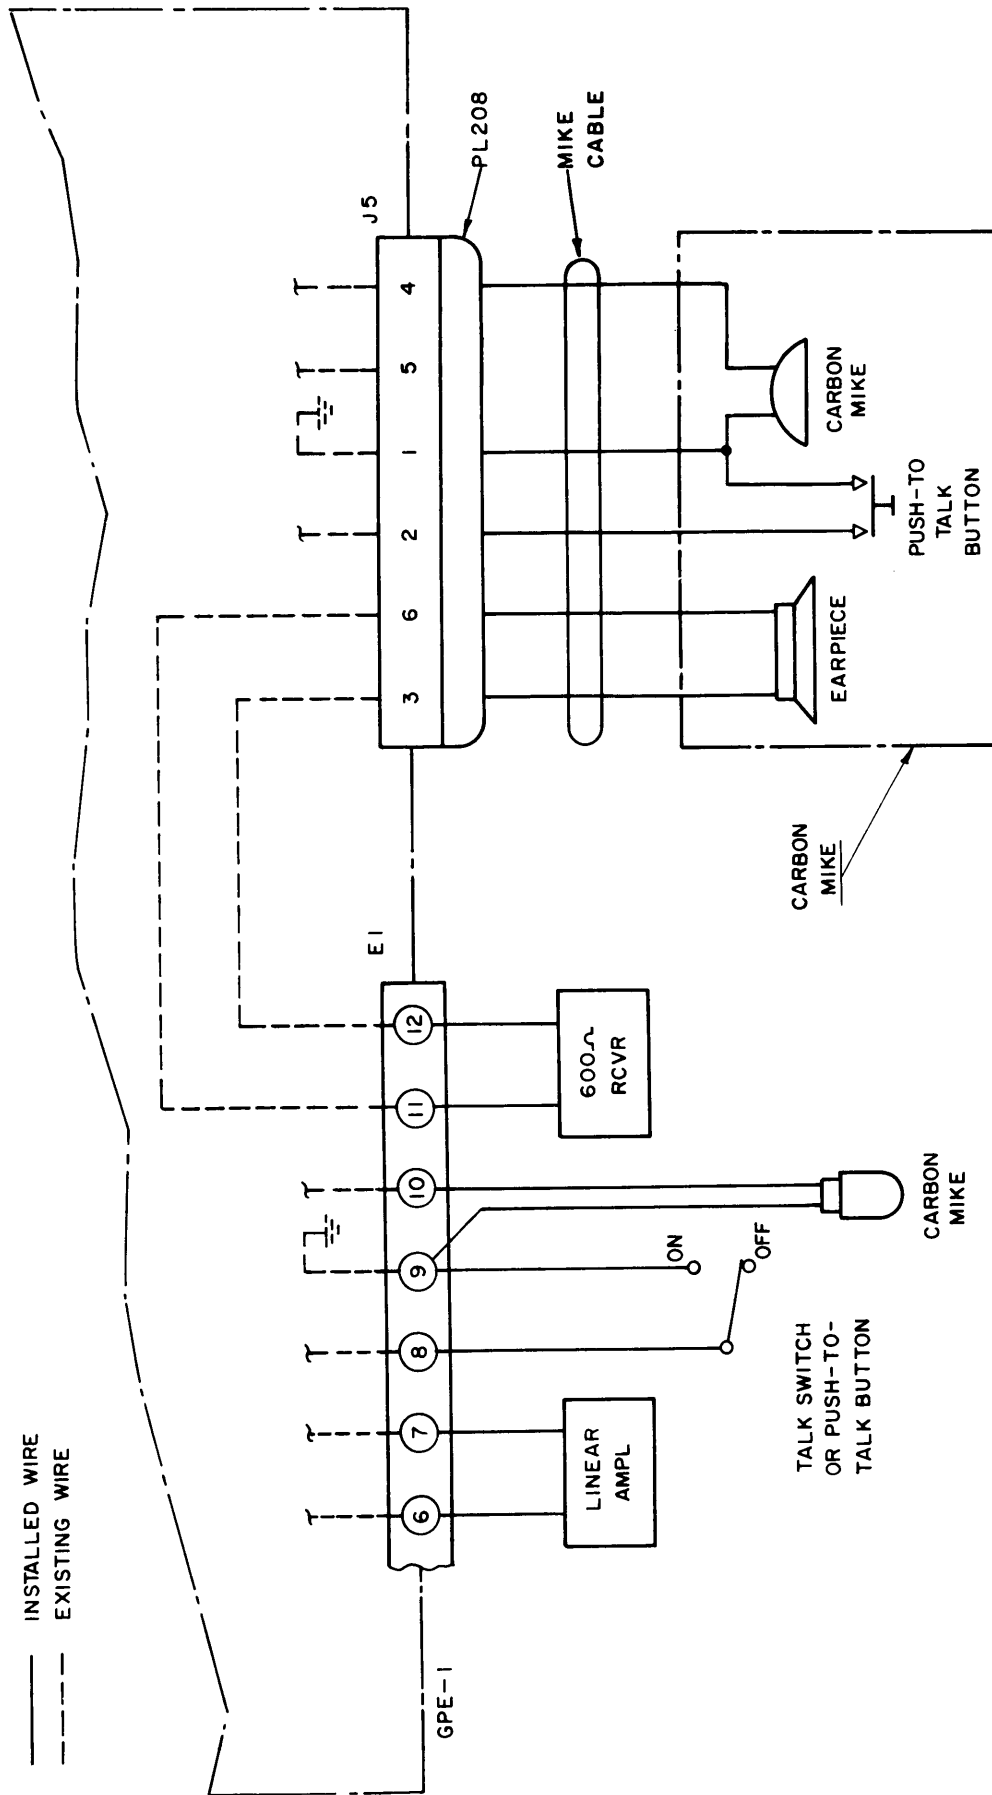

Figure 2-3. Installation Diagram, Carbon Mike, GPE-1.
c. CARBON MIKE OR HIGH IMPEDANCE MIKE (AM MODE). Either a carbon mike or a high impedance mike may be connected to the equipment at J5 receptacle in the front panel as shown in Figures 2-3 and 2-4. Two mating plugs (TMC #PL-208) are provided, one for a carbon mike cable and the other for a high impedance mike cable. Or, if preferred, a carbon mike may be connected at terminals 9 and 10 of E1 terminal block as shown in figure 2-3.
TMC #HS-100-2C Carbon Handset and #HS-100-2D Dynamic Handset are designed for use with the GPE Exciter and are available on order. These handsets include TMC #PL-208 plug for J5 MIKE jack, cable and wiring as shown in figures 2-3 and 2-4, respectively.